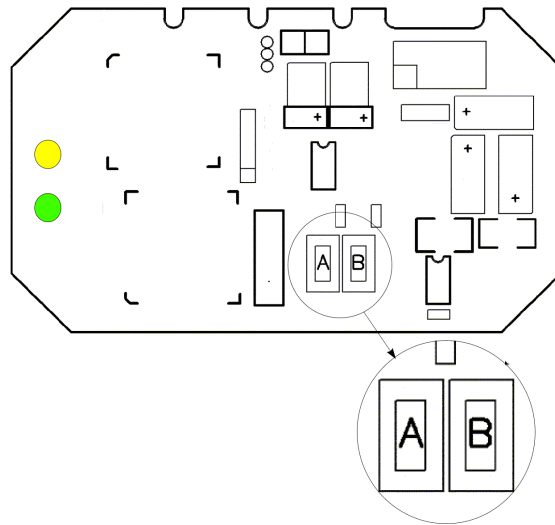

figure 15: Detailed view of push buttons and LEDs used for calibration.
A pair of LEDs are soldered onto the internal printed circuitry: and they show the transducer inner working status. (fig. 15).
- Individualise the two push buttons on the printed circuit (*figure 15*);